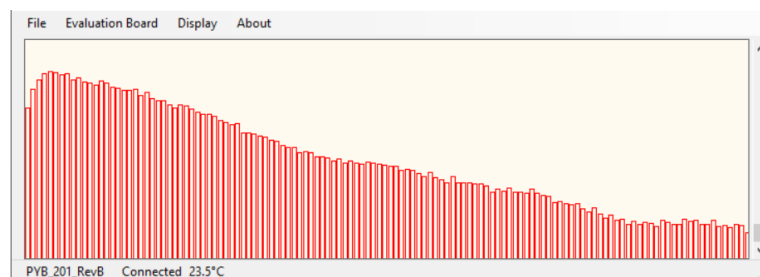

Figure 24: Peak to Peak values (Air)
Checking the peak to peak option (2) results in the display shown in Figure 24.